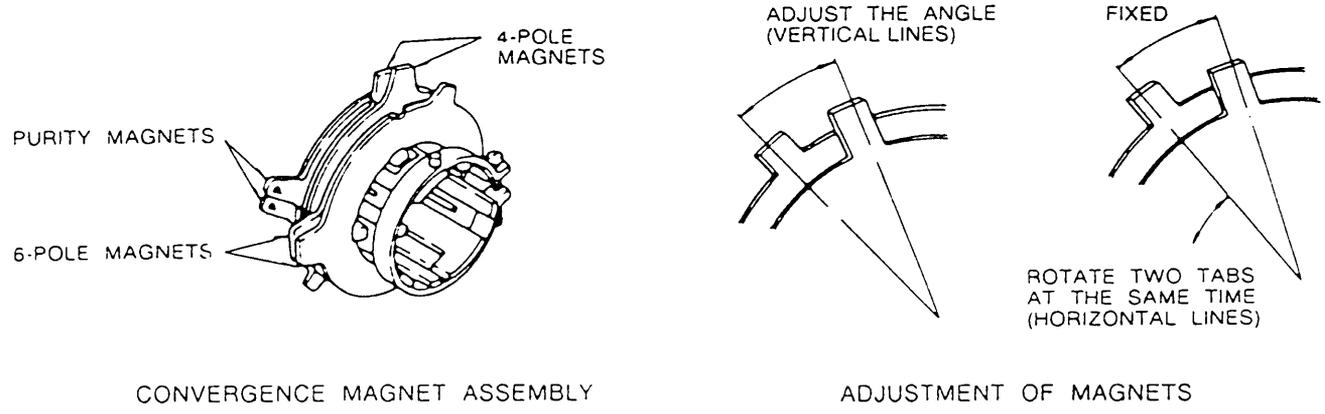
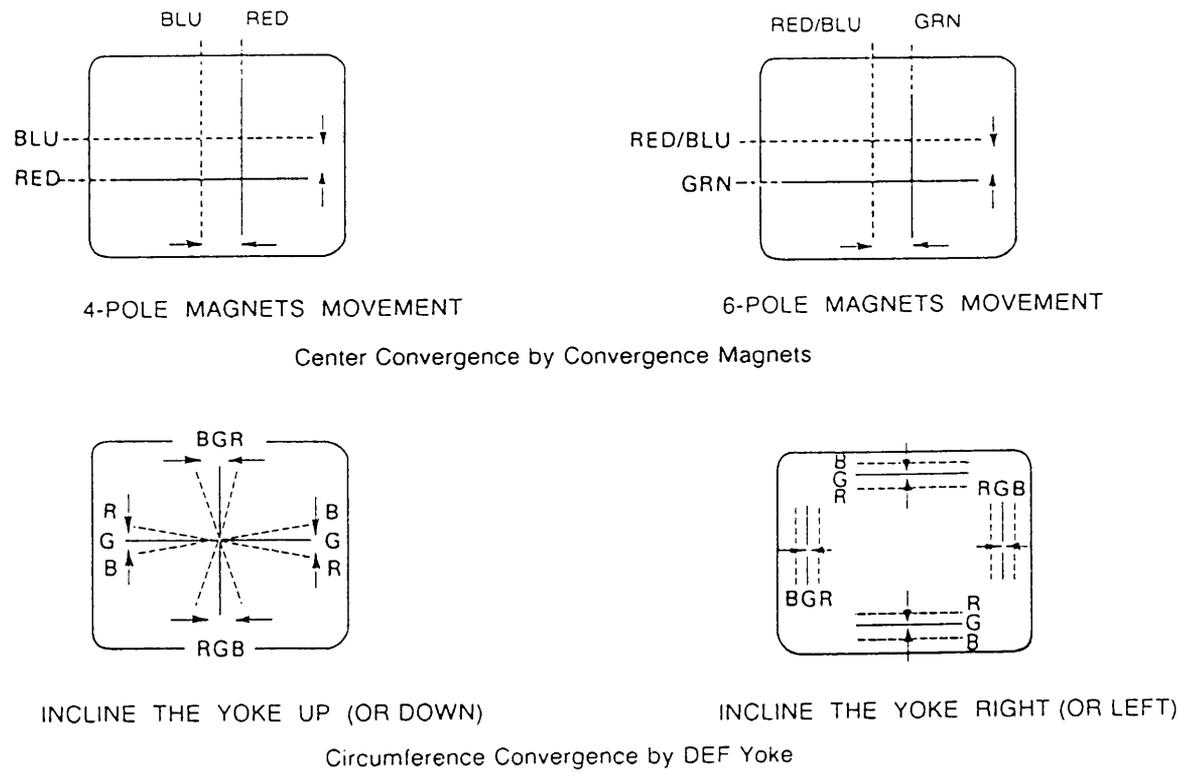

Figure 2.
Figure 3. Dot Movement Pattern.
3. Adjust two tabs of the 4-Pole Magnets to change the angle between them (See figure 2.) and superimpose red and blue vertical lines in the centre area of the picture screen. (See figure 3.)
4. Turn the both tabs at the same time keeping the constant angle to superimpose red and blue horizontal lines at the centre of the screen. (See figure 3.)
3. Tilt front of the deflection yoke up or down to obtain better convergence in circumference. (See figure 3.) Push the mounted wedge into the space between picture tube and yoke to fix the yoke temporarily.
5. Tilt front of the yoke right or left to obtain better convergence in circumference. (See figure 3.)